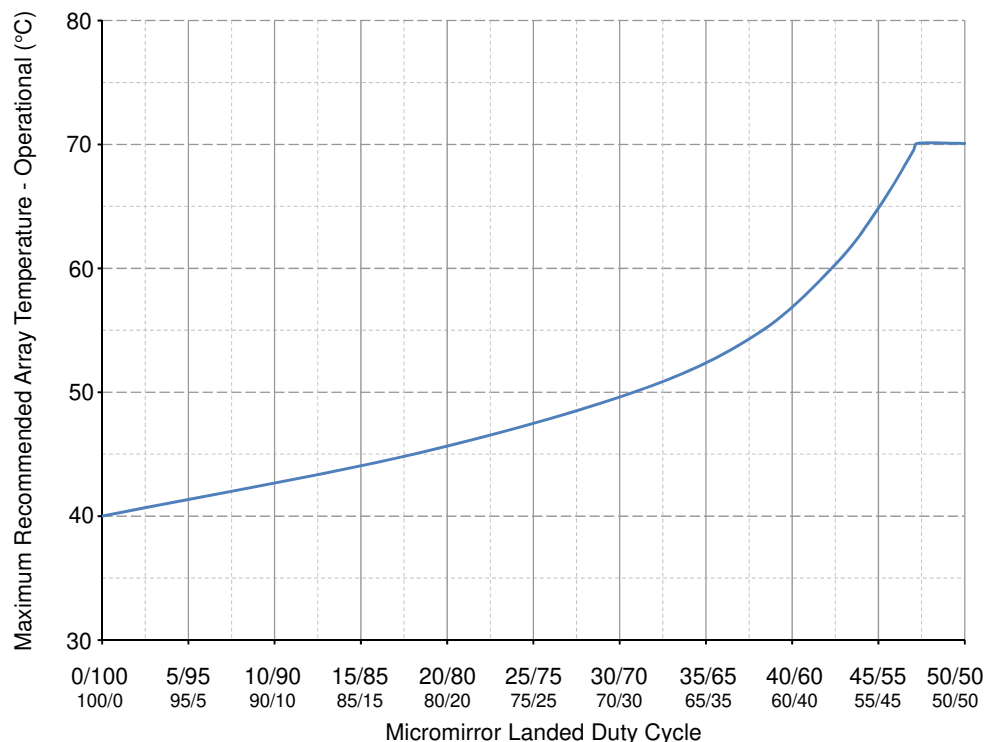

图 6-1. Maximum Recommended Array Temperature—Derating Curve
- (13) Per 图 6-1, the maximum operational array temperature must be derated based on the micromirror landed duty cycle that the DMD experiences in the end application. See 节 7.7 for a definition of micromirror landed duty cycle.
- (14) Long-term is defined as the usable life of the device.
- (15) Array temperatures beyond those specified as long-term are recommended for short-term conditions only (power-up). Short-term is defined as the cumulative time over the usable life of the device and is less than 500 hours.